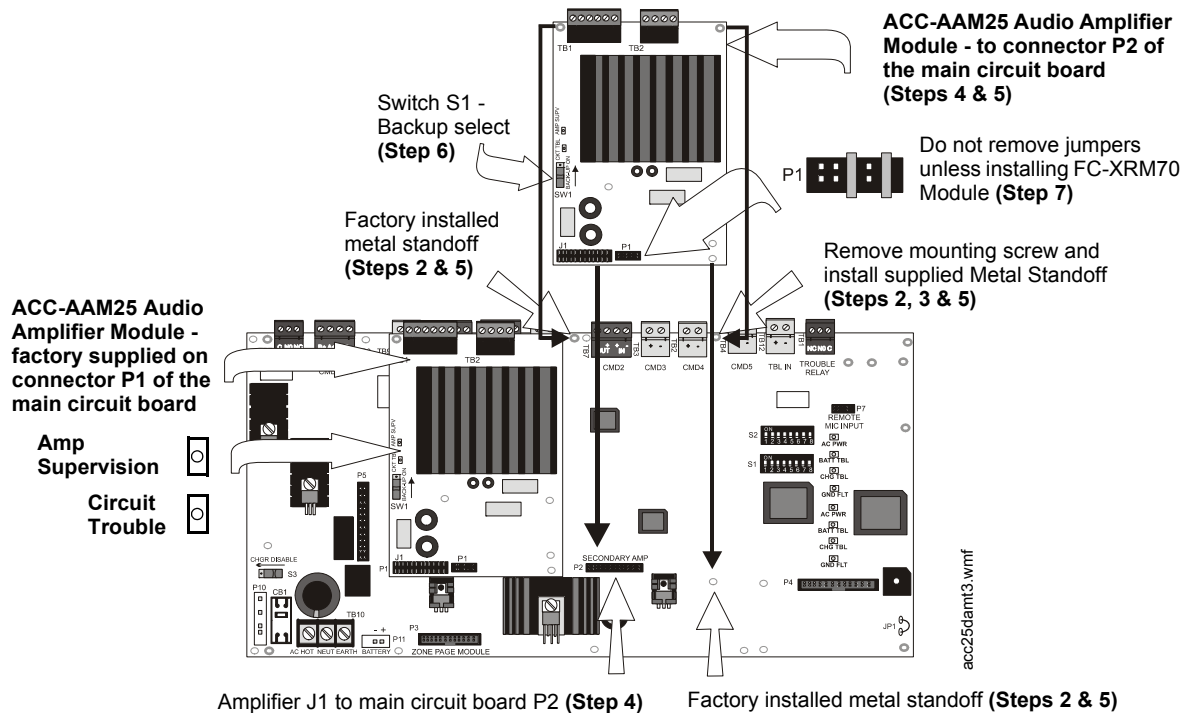

Figure 3.16 Installation of Optional Audio Amplifier
1. Carefully remove the ACC-AAM25 Audio Amplifier Module(s) from the main circuit board. Figure 3.16 on page 47 for installation procedures and reverse the steps.
3. Reinstall the Audio Amplifier Module(s) following the procedure accompanying Figure 3.16.